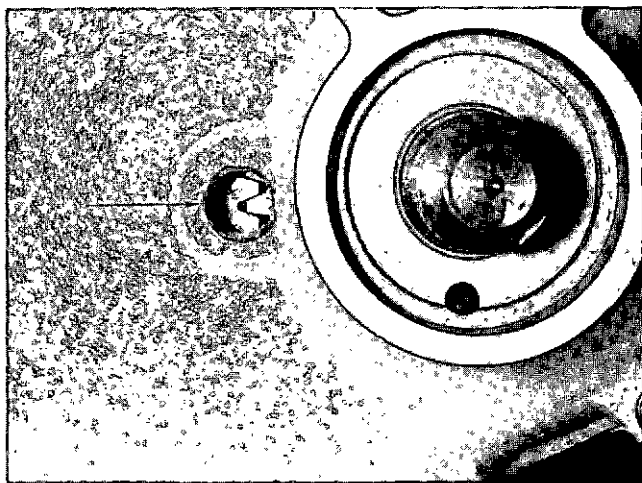

Fig. 14-1-48, V414149. Timing marks location with gear case cover installed
6. On occasion it may be necessary to install a drive assembly with gear case cover in place; if so, see Fig. 14-1-48 for timing mark location.
12. If *not previously installed, install pipe plug in inspection hole between camshaft thrust plate and fuel pump/compressor drive. Fig. 14-1-48.